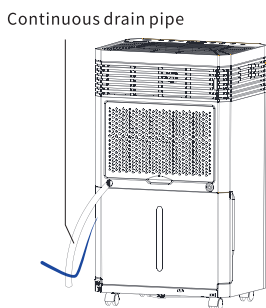
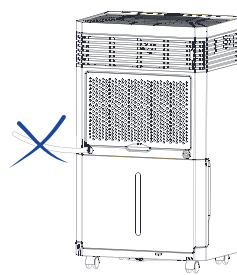

Fig.2
Fig.3
- ① place the machine in a proper position
- ② Insert the water pipe with an inner diameter of 11.5-12mm into the continuous drain hole, keep the water pipe with a downward slope and the water pipe mouth downward to ensure the smooth discharge of condensed water (Fig2). The water outlet of the water pipe and any position in the middle shall not be higher than the water outlet(Fig3).